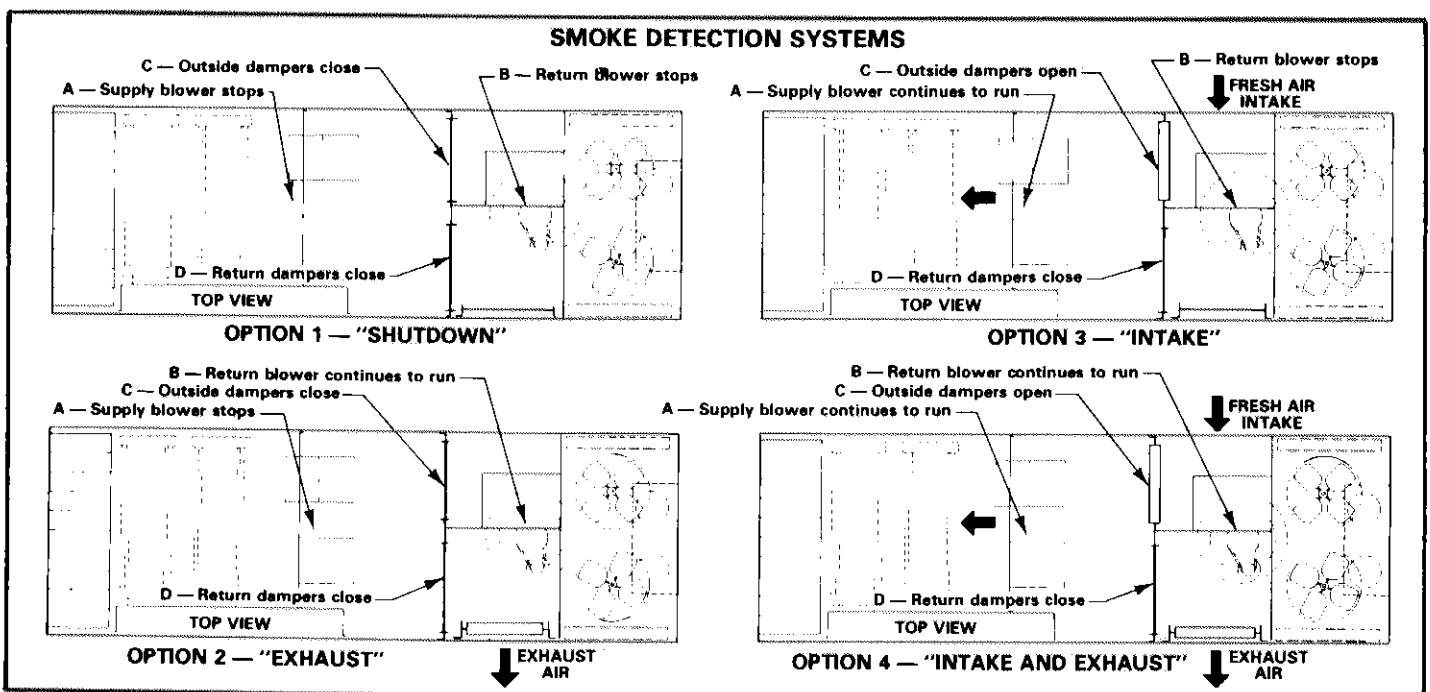

FIGURE 19
- 5 - With the presence of smoke, the smoke detection system (optional) terminates heating and cooling functions and provides 4 options of controlling blower and damper operation. See Figure 19.
tional) terminates heating and cooling functions and provides four options of controlling blower and damper operation. See Figure 19.